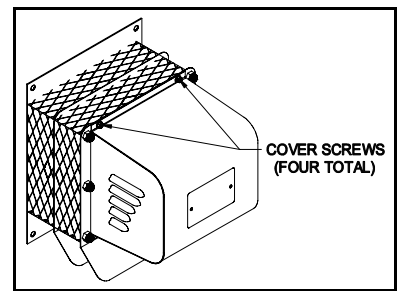

Figure 1
1. Remove motor cover. (See Figure 1)
4. Seal around the edge of the motor mount bracket with the provided high temperature silicone sealant. Install the motor cover with the side louvers pointing downward as shown in Figure 1.